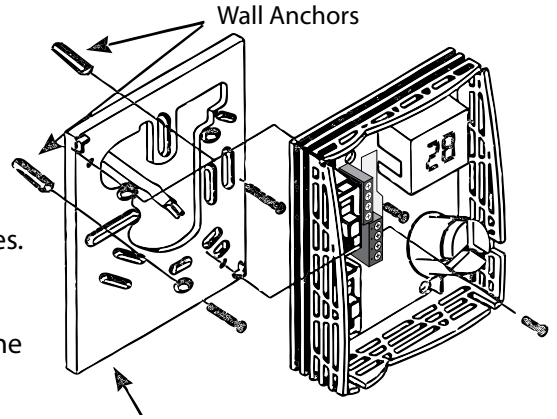

**Figure 4**
4. Drill holes in the wall through the 2 mounting holes in the back of the humidistat cabinet as shown in Figure 4 and insert anchors into the holes.